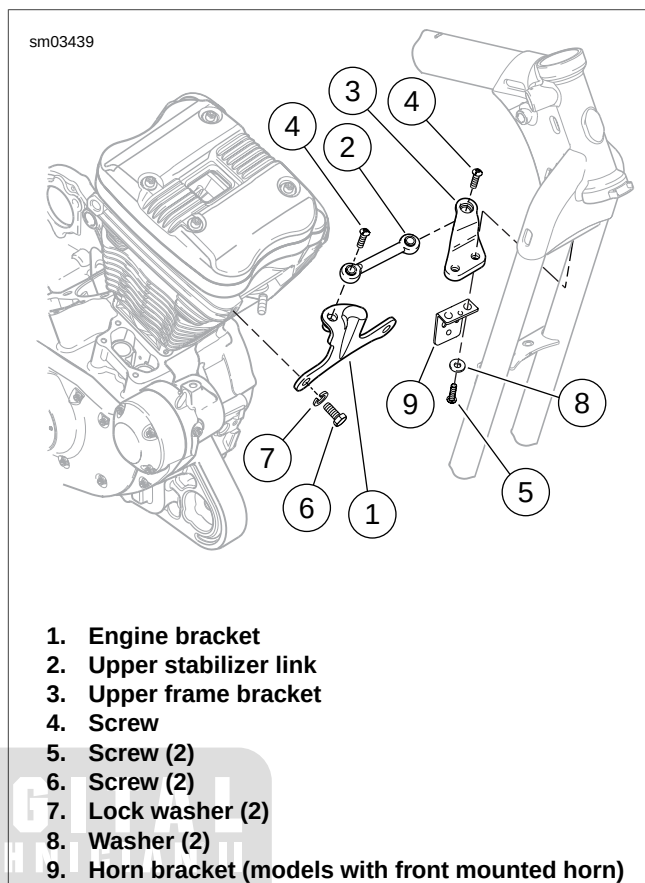

Figure 2-208. Upper Front Stabilizer Link Assembly: Typical (XL Model Shown)
2. See Figure 2-208. Remove screws (4) and stabilizer link (2).
- a. **Models with front mounted horn:** remove screws (5), washers (8), horn bracket (9), and upper frame bracket (3) from frame.
- b. **Models with side mounted horn:** remove screws (5), washers (8) and upper frame bracket (3) from frame.
4. Remove screws (6), lock washers (7) and engine bracket (1) from front cylinder head.
1. See Figure 2-208. Install screws (6), lock washers (7) and engine bracket (1) to front cylinder head. Tighten to 55-65 ft-lbs (74.6-88.2 Nm).
- a. **Models with front mounted horn:** install upper frame bracket (3), horn bracket (9), screws (5) and washers (8).
- b. **Models with side mounted horn:** install upper frame bracket (3), screws (5) and washers (8).
3. Install stabilizer link (2). Secure with screws (4). Tighten to 25-35 ft-lbs (33.9-47.5 Nm).
4. See Figure 2-208. Remove screw (4) securing upper front stabilizer link (2) to stabilizer link bracket (3).
6. See Figure 2-208. Attach upper front stabilizer link (2) to bracket (3) with screw (4). Tighten to 25-35 ft-lbs (33.9-47.5 Nm).
16. See Figure 2-208. Remove screw (4) securing upper front stabilizer link (2) to stabilizer link bracket (3).